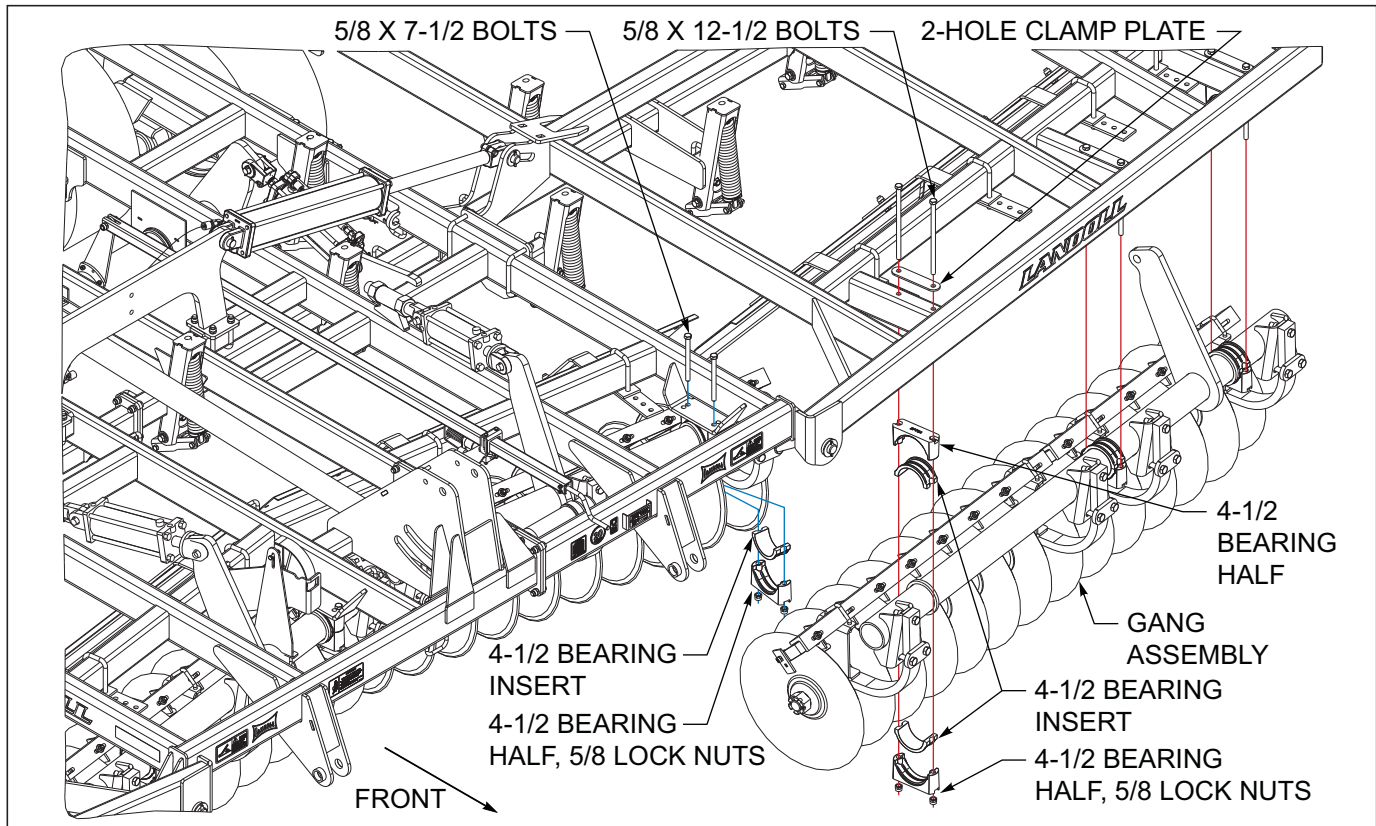

Figure 3-15: Disc Gang Assembly
1. Assemble the center frame disc gangs to the center frame using cast bearing halves, plastic bearing inserts, 5/8 x 7-1/2 bolts, and lock nuts **See Figures 3-15**. Align the cylinder mounts on the disc gang assemblies with the mounts on the center frame to properly position the gangs.